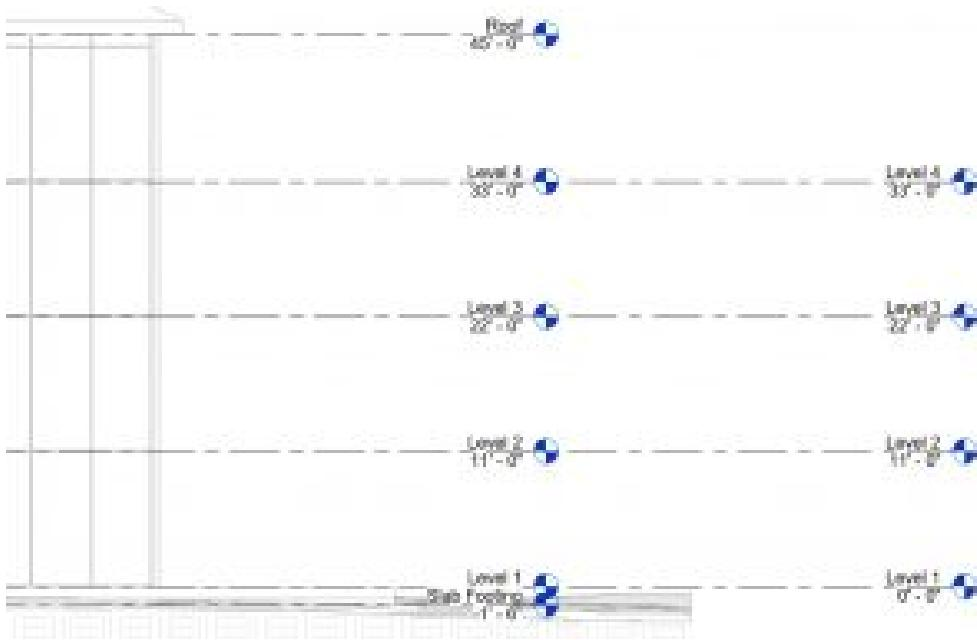

Figure 15.1 Levels added to the Mechanical file
14. The linked Revit file levels show but are not accessible. The mechanical template default levels are hidden behind the linked file. Click the Level 2 at the 10'0" height then click and drag the hollow circle out to the right as shown in Figure 15.1.